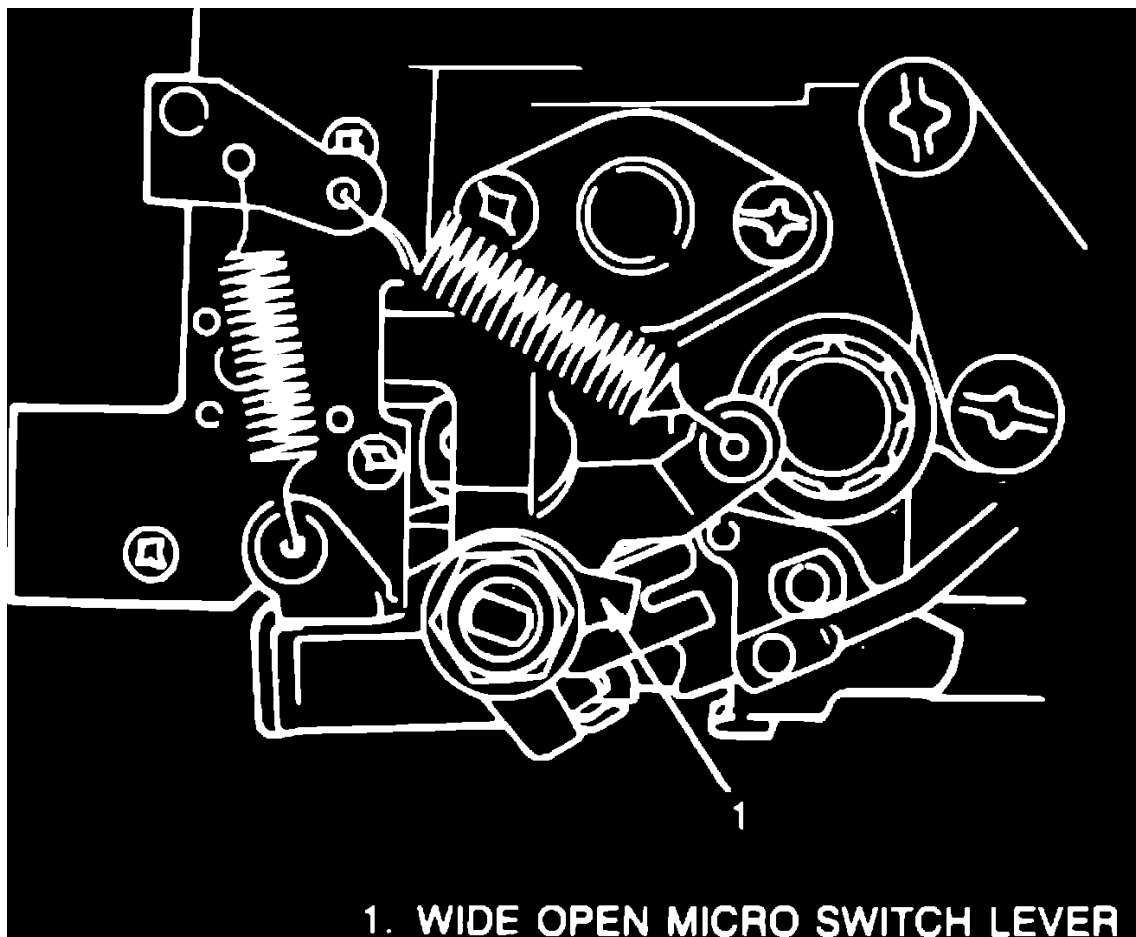

Fig. 14 Wide open throttle micro switch adjustment
3. Open throttle gradually until ohmmeter indicates zero ohm. Measure clearance between throttle butterfly and carburetor bore, **Fig. 13**. Clearance should be .29 - .33 inch (7.2 - 8.4 mm). If clearance is out of range, adjust by bending lever, **Fig. 14**.